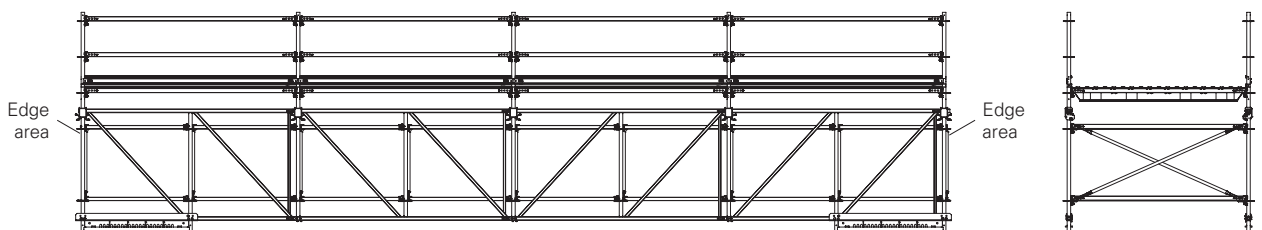

Fig. B.1.01c
* Additional Ledger Braces UBL-2 required in the edge area. (Fig. B.1.01c)